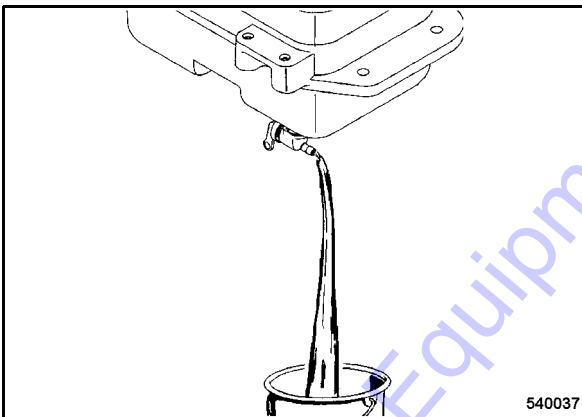

Fig. 50
- Disconnect fuel hose (Fig. 50) from fuel cock. Open the fuel cock, drain off fuel.